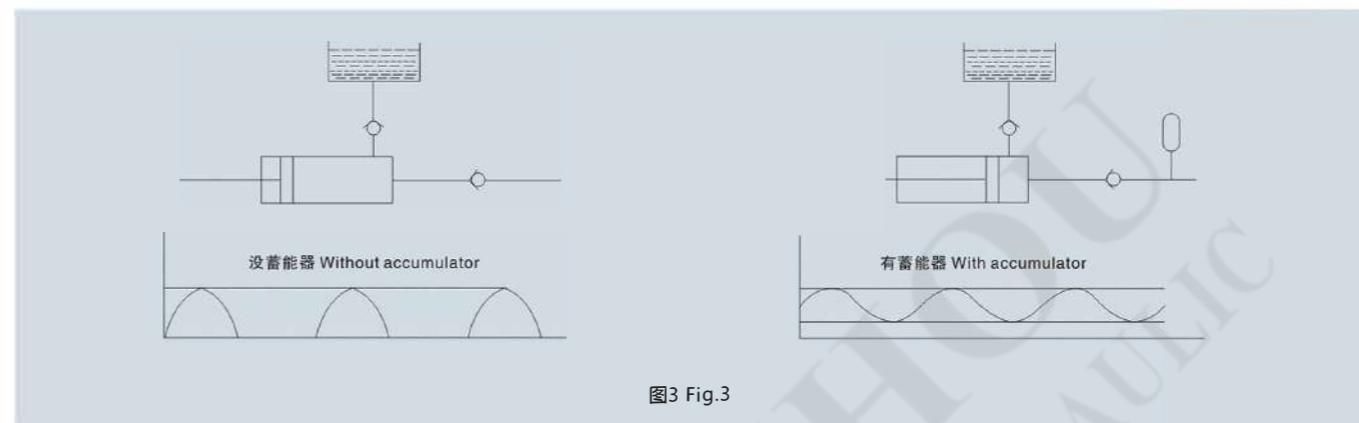

图3 Fig.3
1、柱塞泵和隔膜泵在运行时会在液压回路里不可避免地产生脉动，这既不利于运动又有害于部件的使用寿命。在靠近泵的出口侧装上囊式蓄能器，可吸收脉动，使脉动降到满意的程度(图3)。典型的用途如：用于定量泵及活塞数较少的柱塞泵等。
Both piston and diaphragm pumps create pulsation or pressure peaks during operation, this being undesirable and detrimental to both the smooth operation and operational life of components. The fitting of an accumulator adjacent to down stream of the pump will dampen the pulsation to an acceptable level(fig.3)Typical applications are dosing pumps,pumps with a small number of pistons etc.